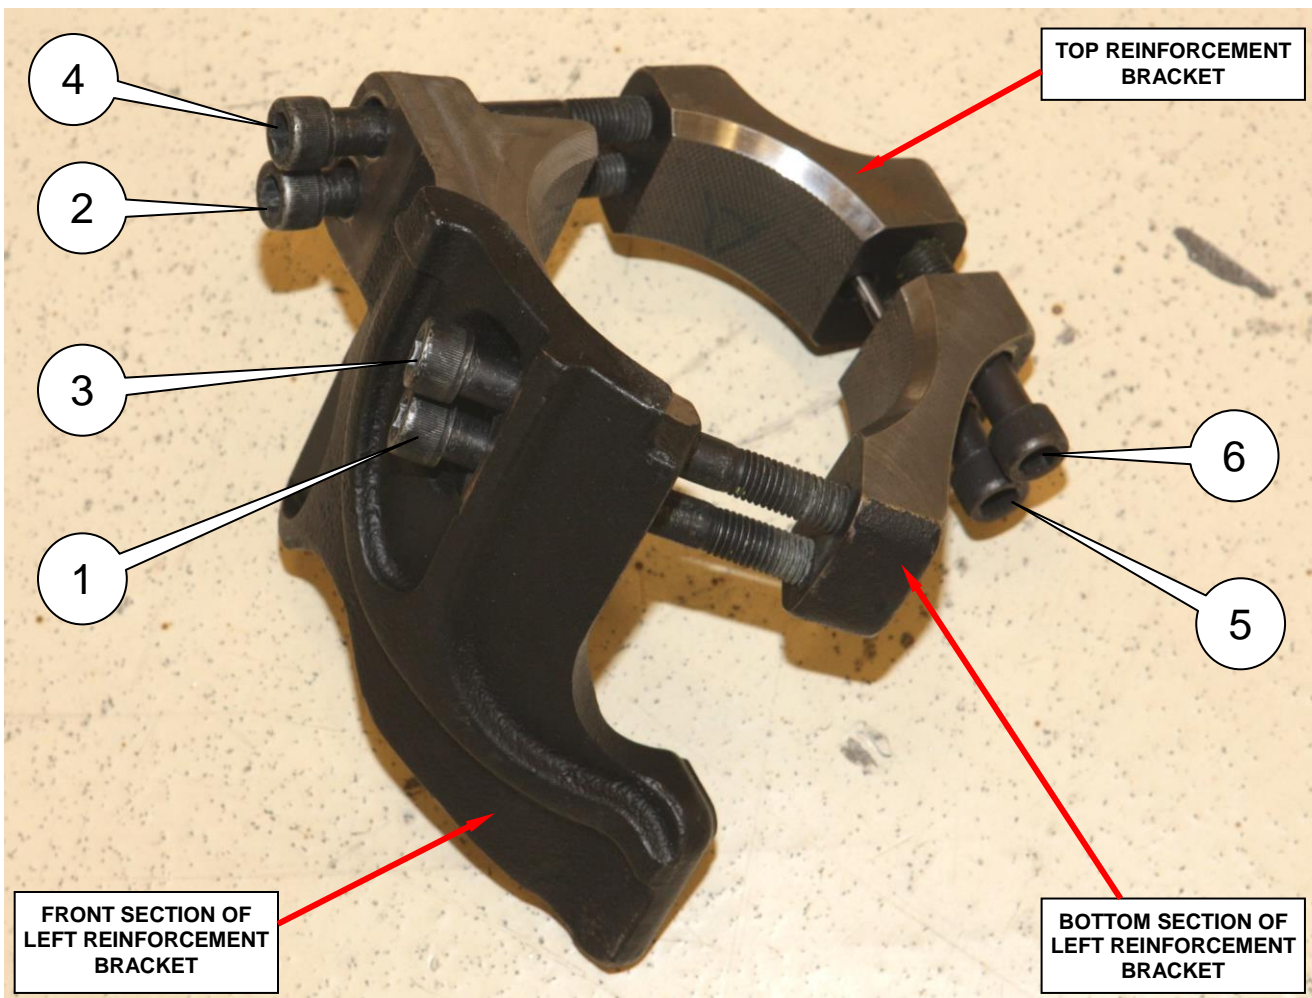

Figure 24 – Left Axle Reinforcement Bracket Retaining Bolt Tightening Sequence
f. Tighten the left axle reinforcement bracket retaining bolts in the sequence shown in Figure 24 to: